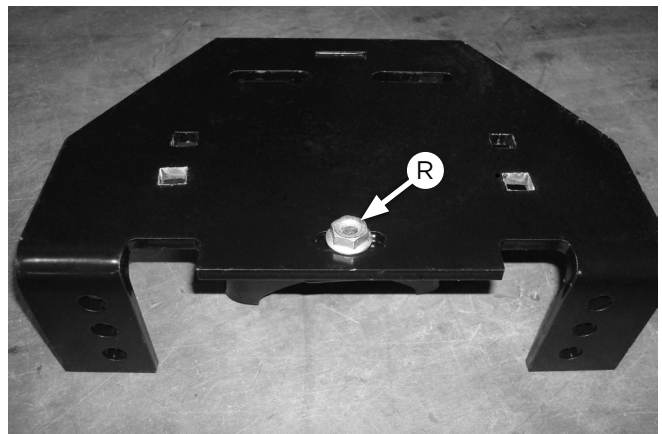

*Fig. 9*
3. Flip the assemblies over and set a roll plate onto the bottom of the air spring (Fig. 9).